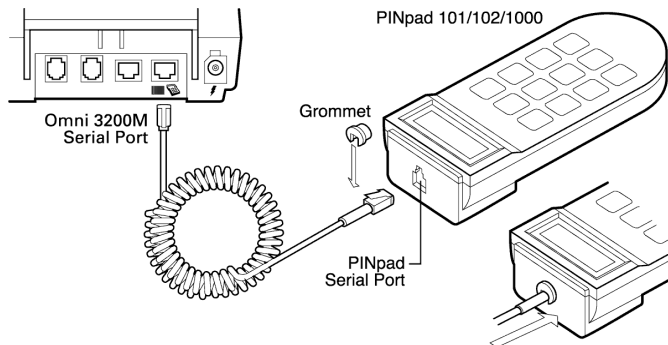
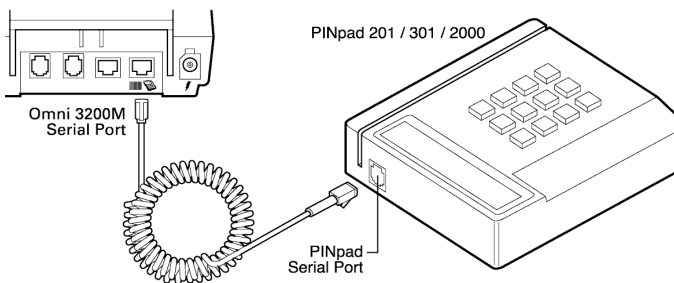

Figure 9 PINpad 101/102/1000 Connection
Figure 10 PINpad 201/301/2000 Connection
To connect a PIN pad to the Omni 3200M terminal (see Figure 9 and Figure 10):
2. If you are installing a PINpad 101, PINpad 201, or PINpad 1000, position and insert the grommet to secure the cable connection, as shown in Figure 9.